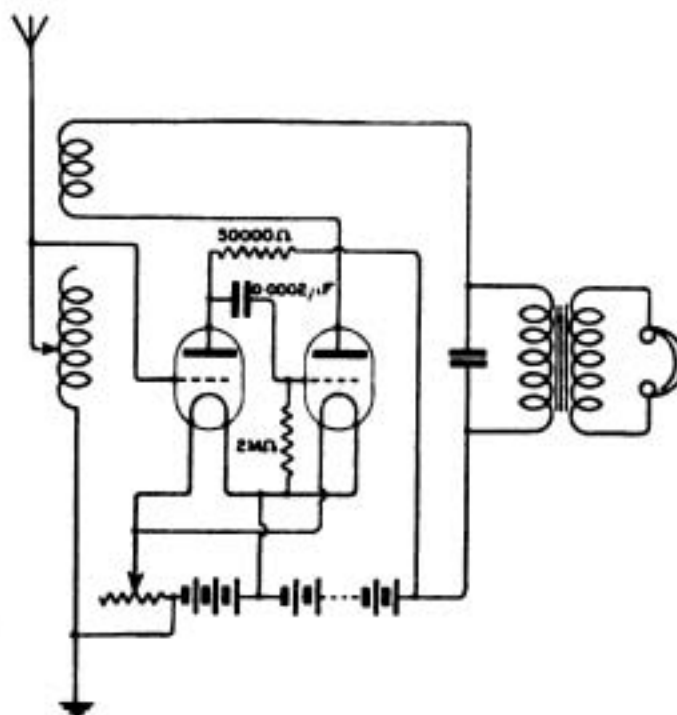

Fig. 4.
H.L. (Wimbledon).—(1) Use two of the pancakes in the plate circuit. For the grid you might use two others of them, getting a variometer effect if desired by varying their mutual coupling. The absence of a grid leak is due to the employment of a soft valve. For a hard valve a grid leak should be included.
(2) Probably.
(3) Preferably use glass, say a large test tube with walls as thin as possible.
(4) A 1/1 transformer wound with, say, No. 46 to as high a resistance as possible would be best. Failing that, your suggestions are about equally meritorious.
A.J.M. (Kilburn).—(1) The circuit of Fig. 4, page 218, of the June 25th issue should be suitable.
(2) For 0.00005 mfd. you would require one plate of dielectric with 2 sq. cms. of overlap.
(3) For 0.0005 mfd. use one plate with overlap of 20 sq. cms.
(4) For 0.001 mfd. as above, but with two plates.
R.G.M. (Birmingham).—(1) The power is given as $\frac{1}{2}$ kw, see *Wireless World*, February 19th, 1921, p. 805.
(3) Yes, if the resistance-condenser method frequently sketched is used.
(4) See reply to (1) above.
E.D.B. (South Croydon).—(1) The circuit given in Fig. 4 will give the desired results.
(2) Yes.
(3) No modification is necessary for telephony, except that the reaction coupling should not be tight enough to cause oscillation.